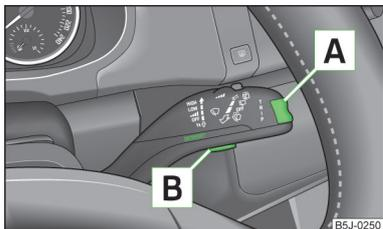

Fig. 22
Switch memories using button **B** » Fig. 22 on page 30 on the windscreen wiper stalk.
The Toggle button for selecting menu items **A** » Fig. 22 and button **B** are found on the wiper stalk.
» Briefly press the top or bottom of rocker switch **A** » Fig. 22. This opens the individual menu items in the multifunction display one after the other.
» Press button **B** » Fig. 22.
» Press and hold button **B** » Fig. 22.
- Press button  » Fig. 22 on page 30 to select the **Warning at** (MAXI DOT display) or  (segment display) menu item.